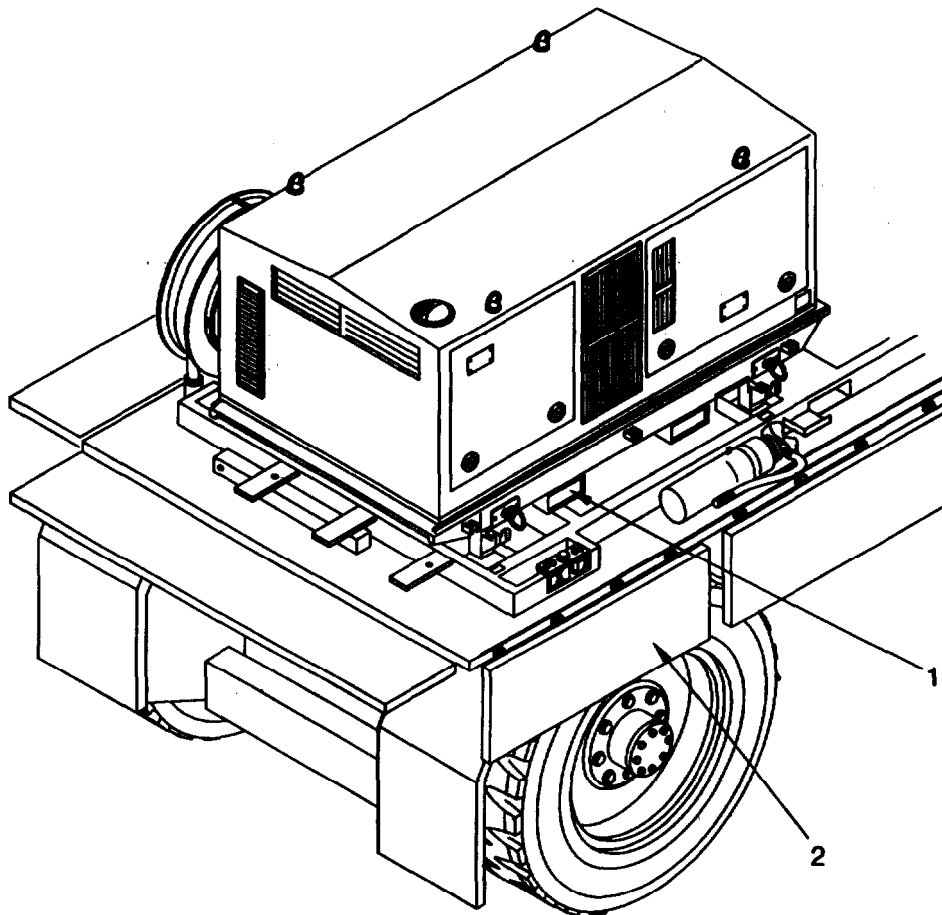

Figure 4-23 Removing a Generator Set 150 kW from Pallet Frame using a Forklift.
- b. Fold down side panels (2, figure 4-23).
- c. Position the forklift in front of the Generator Set 150 kW and insert the forks into the forklift sockets (1, figure 4-23) as far as possible. The remaining fork length visible will then be approximately 20 inches (500 mm).
- Use the forklift only on the side of the Generator Set 150 kW shown in figure 4-23. This requires folding down side panels (2).